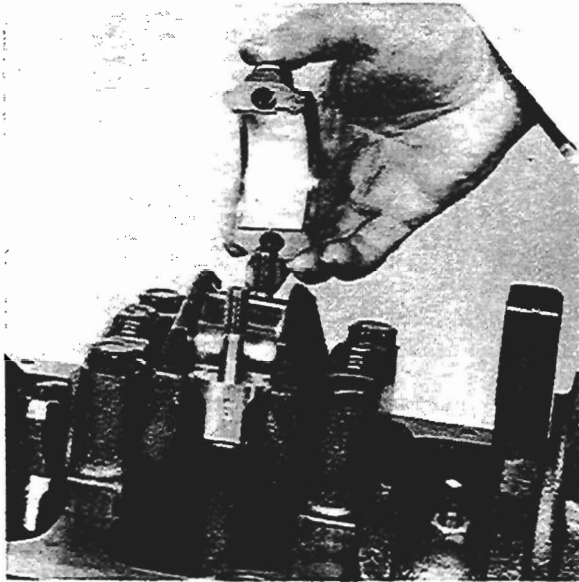

Fig. G1
4. Remove the big end caps (see fig. G1) and connecting rod bearings from the connecting rods and push the pistons and connecting rods out of the top of the cylinder block (see fig. G2).